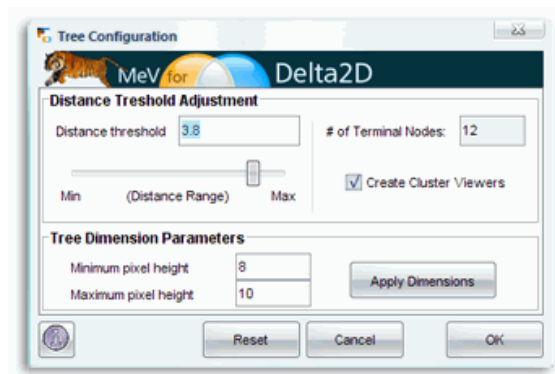

Figure 5.54.: Cutting a tree by a distance threshold. Use the slider to adjust the threshold.
- Use the slider to cut the tree at a certain distance from the root (fig. 5.54 on page 92).